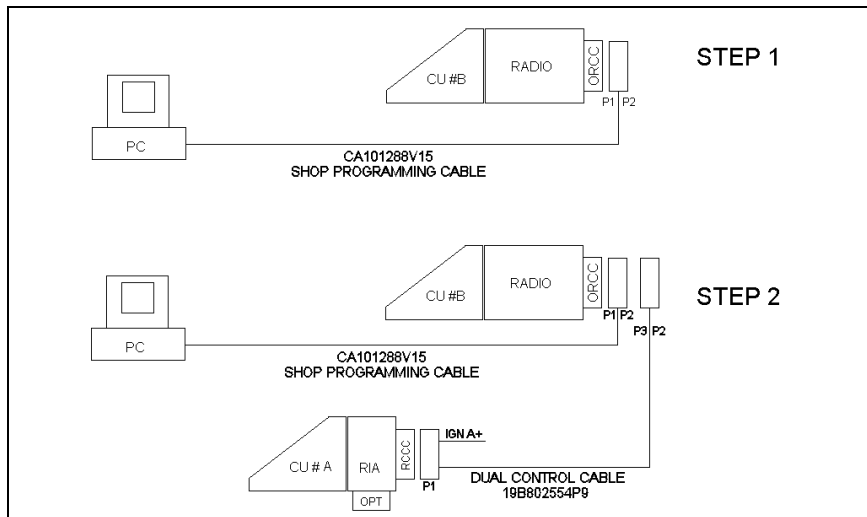

Figure 22 – M7100^{IP} Dual Control Unit PC Programming Configuration
1. Configure the M7100^{IP} Front Mount Radio with ProGrammer Assembly, as shown in Figure 22, Step 1. Program the radio with the following control configurations:
2. Now configure the Front Mount Radio and the Auxiliary Control Unit together with ProGrammer, as shown in Figure 22, Step 2. Program this configuration with the following files: